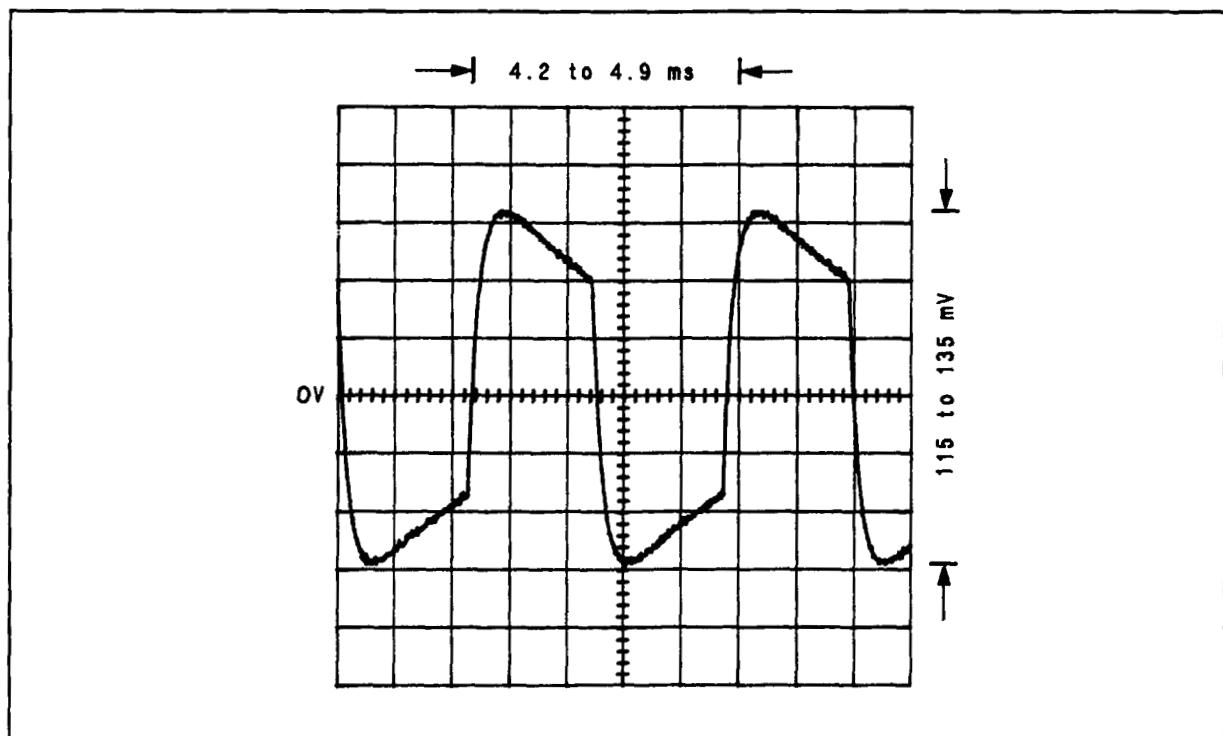

Figure 8F-2. Waveform for  $\sqrt{1}$  Step 9
9. Press RF POWER. The waveform on the oscilloscope display should appear as shown in Figure 8F-2.